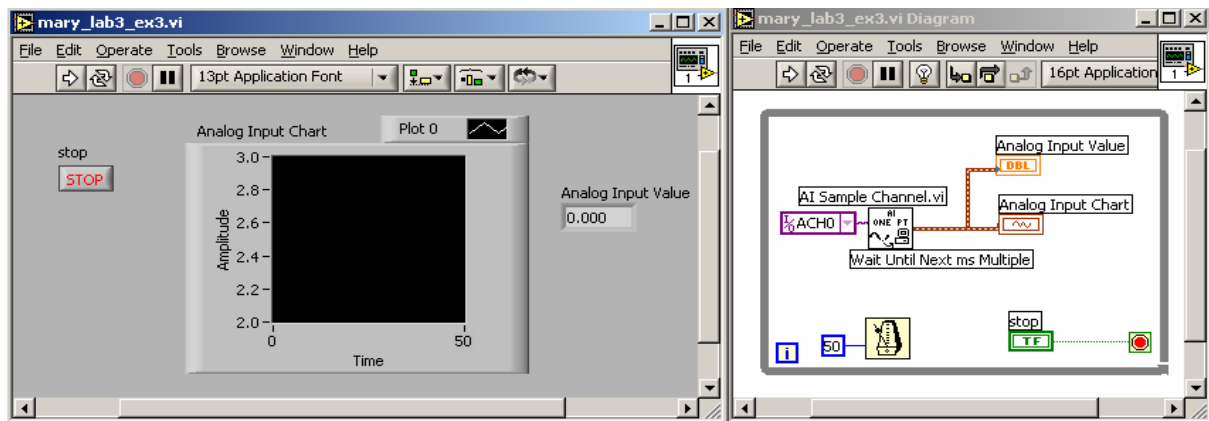

Figure 10. Front panel and block diagram for `yourname_lab3_ex3.vi`.
1. For the VI's you wrote in this laboratory (listed in the preceding section), provide a printout that shows the front panel and block diagram, similar to Figure 10 above.